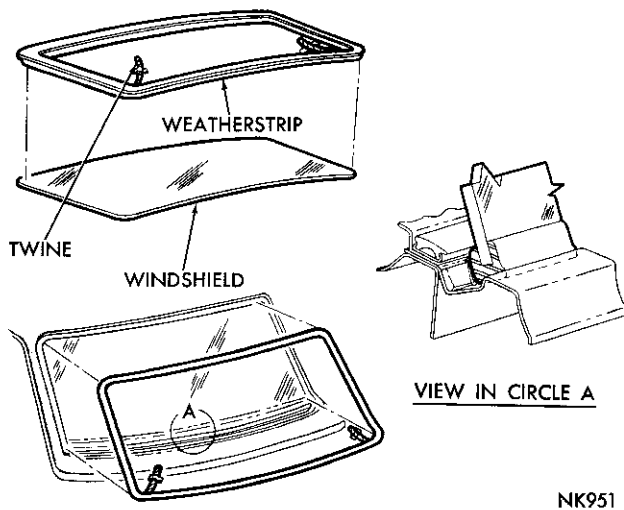

Fig. 121—Windshield Installation
- (1) Apply sealer on each lip of the windshield glass groove in the weatherstrip and position the glass in the weatherstrip.
- (2) Insert a mason twine, starting at the top center of the weatherstrip, into the fence groove portion of the weatherstrip, across the top and down both sides (Fig. 121).
- (3) With an assistant position the windshield glass and weatherstrip on the windshield opening.
- (4) With pressure being applied against the glass from the outside, enter the car and starting at one of the lower corners, alternately pull the ends of the twine halfway up the sides seating the weatherstrip on the fence.
- (5) Applying constant hand pressure to the glass sides, seat the balance of the weatherstrip on the fence.
- (6) Pressurize the weatherstrip to the seal with